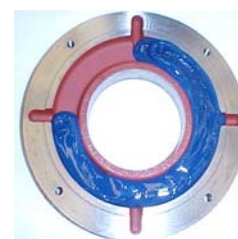

Figure 7.3: Outer bearing cap
- Fill up to ¾ of the inner and outer bearing cap deposits with the recommended grease (Figure 7.3) and lubricate the rolling bearing with enough grease before assembling it;